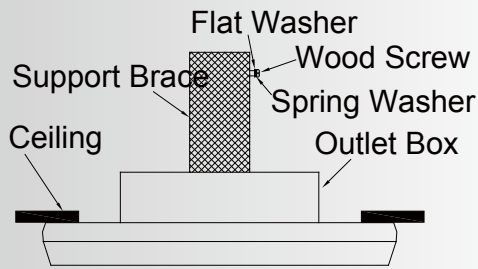

Fig. 8
Step 1. Drive a wood screw and washers into the side of the brace that holds the outlet box. Leave 3mm (1/8") of space between the support brace and the washer. (Fig. 8)